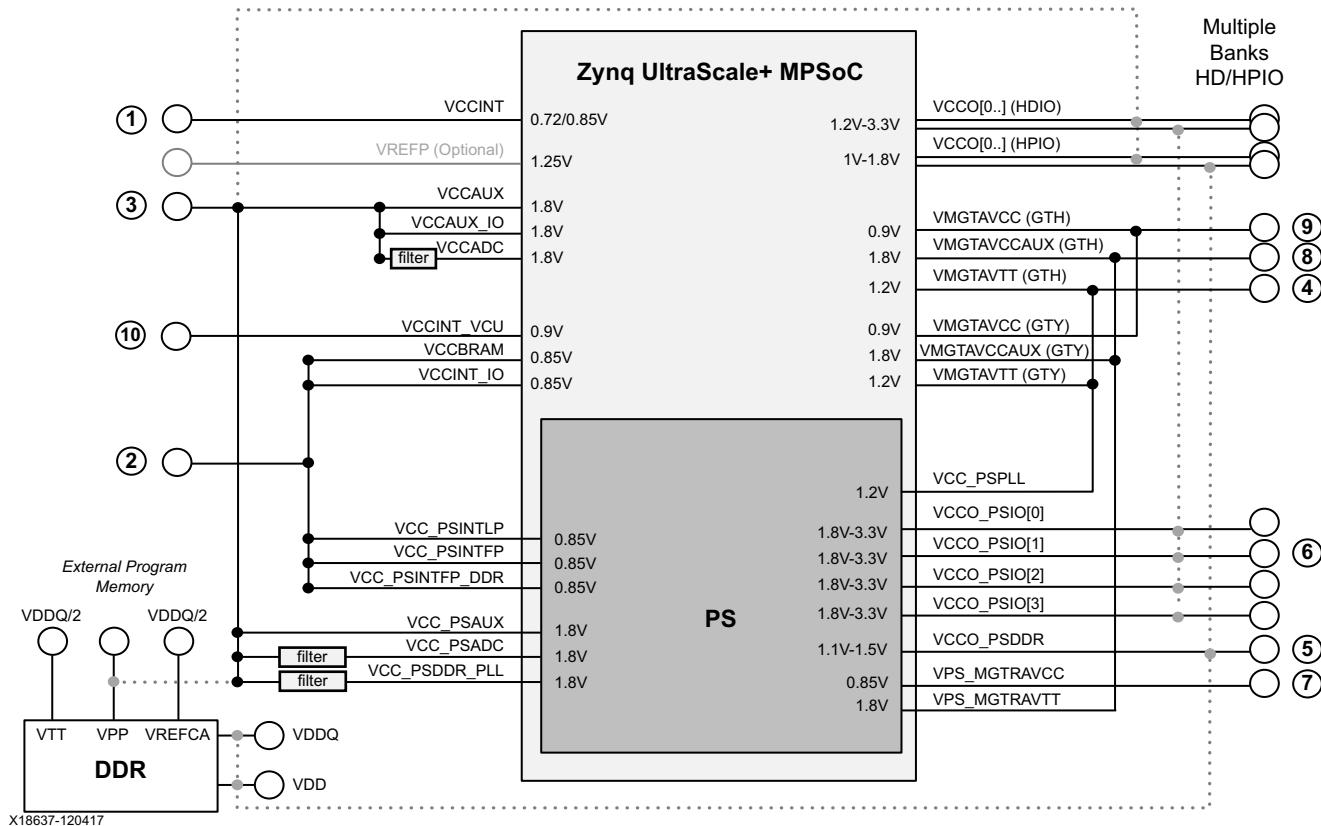

Figure 1-6: Always On: Power and/or Efficiency-Optimized Power Rail Consolidation for Low-Power Devices
Other than the need for an additional power regulator for VCCINT, the possible power rail consolidation is similar to the previous use case. Table 1-17 broadly defines what power rail consolidation is possible for this use case, assuming the decoupling and filtering requirements on the individual supplies as outlined in this document are met. For further clarity, Figure 1-6 shows the possible power rail consolidation graphically.
**Note:** In Figure 1-6, the dashed lines are dependent on the user configuration.